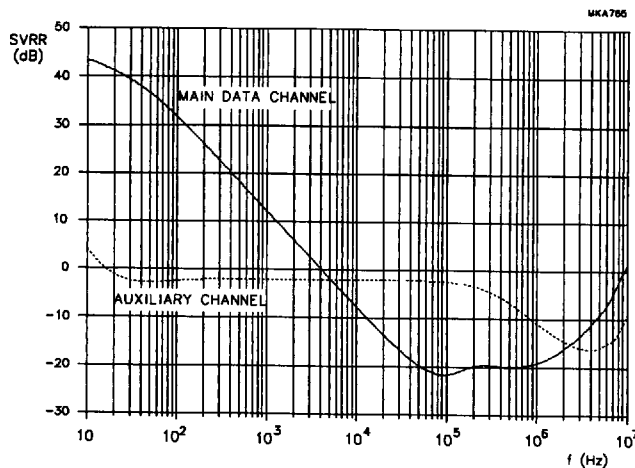

Fig.6 Typical supply rejection of the auxiliary and main data channel (AGC off).
- Heads connected according to the circuit of Fig.11 (see also Fig.6 for typical supply rejection).